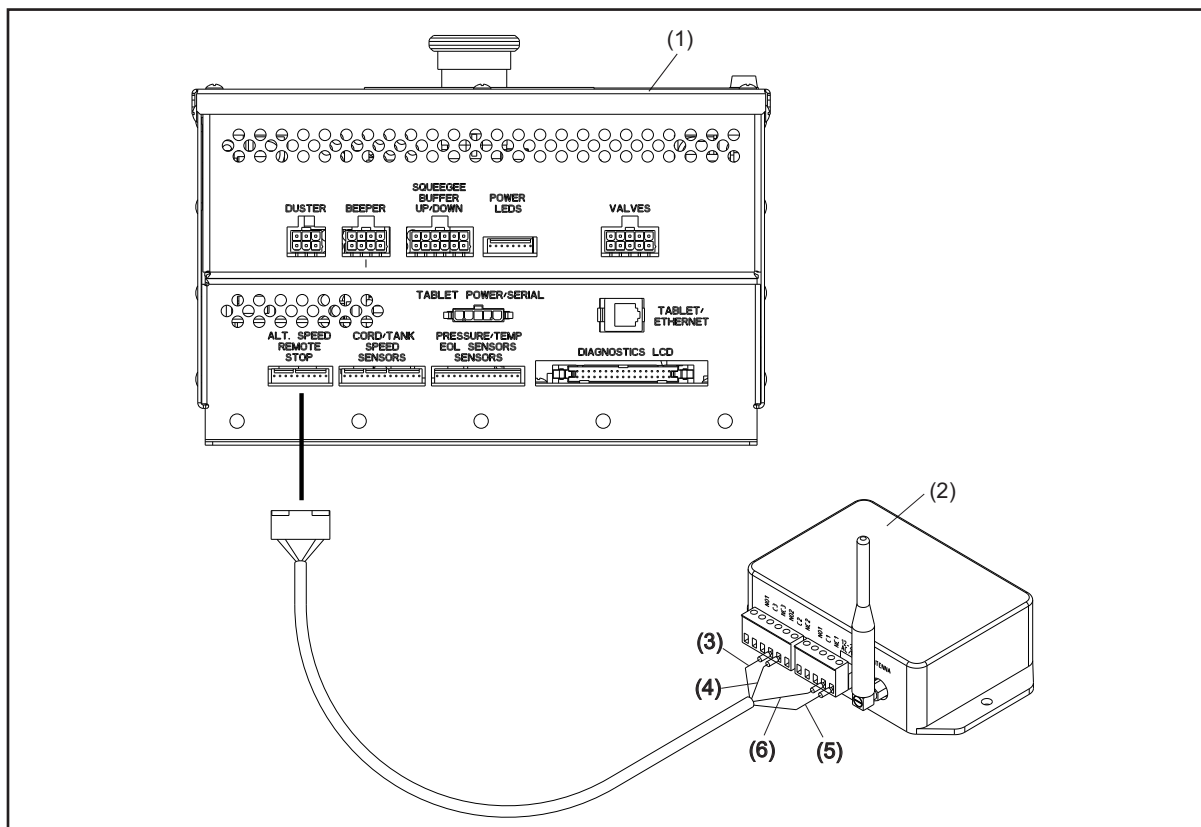

Figure 5-1. Remote Stop
- Press "Stop Running" to stop all functions. Refer to *Figure 5-1*.